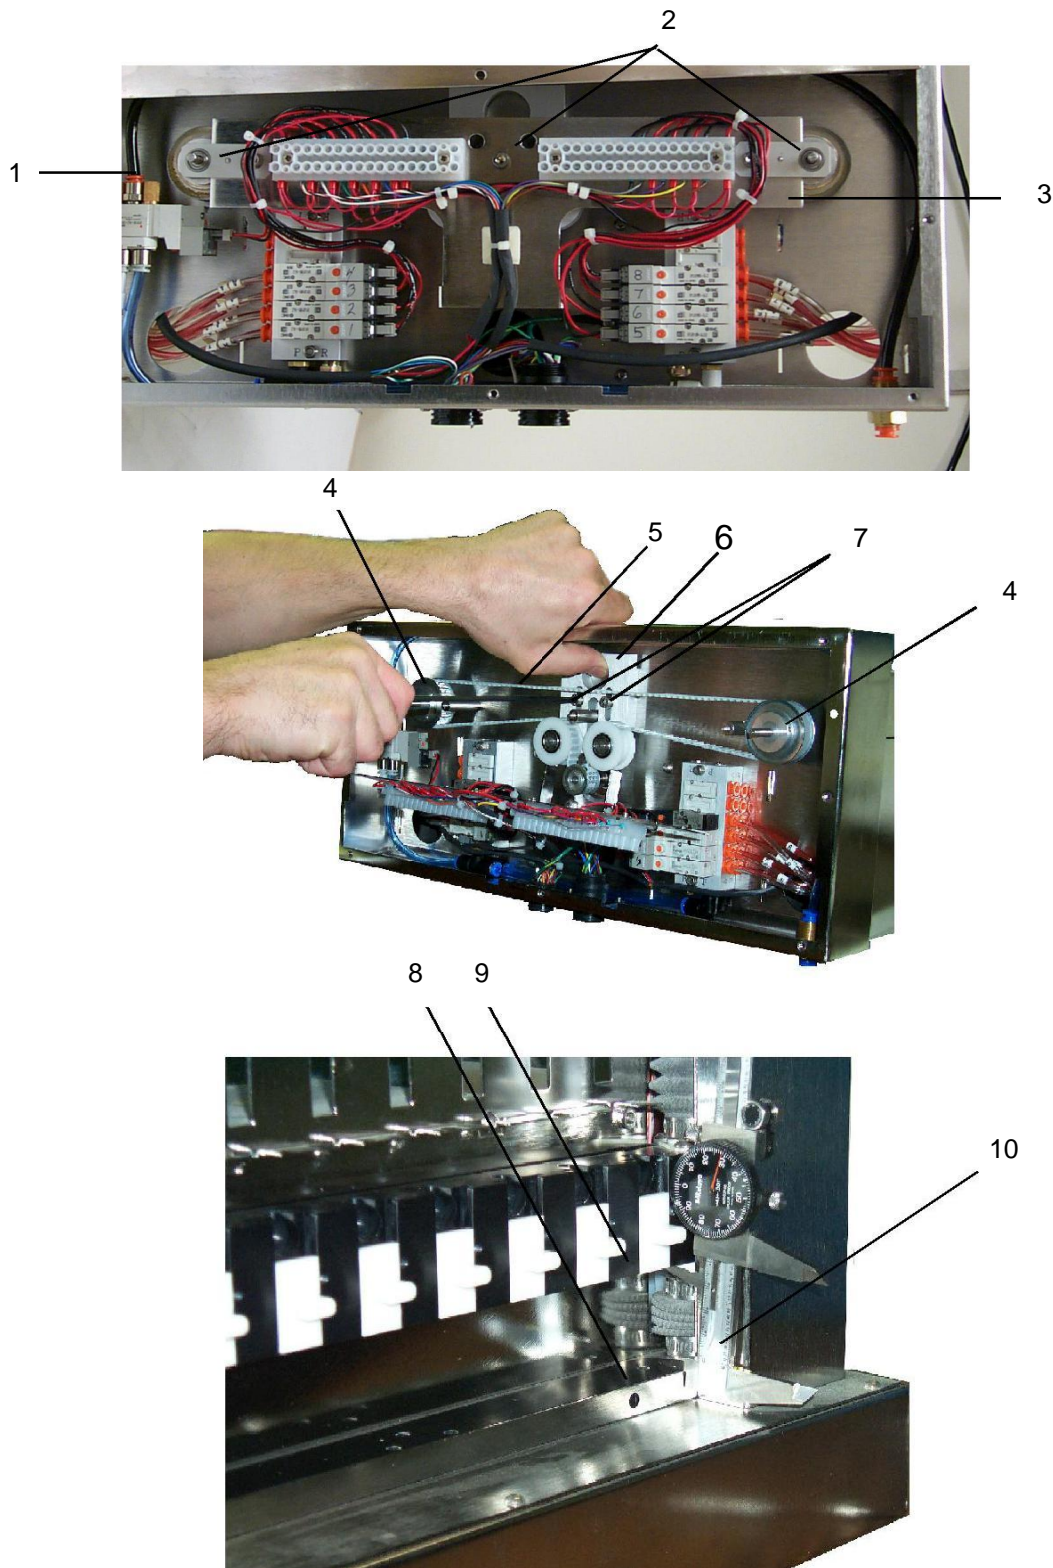

Figure 5.4 Actuator Module Assembly/Disassembly
5.5.3 Assembly/Disassembly Procedures (Figure 5.4)
Disassembly: (Figure 5.4)
Assembly: (Figure 5.4)
1. Using calipers (10), measure the left side of Actuator Module (1) between the bottom of slide assemble (9) and plate (8). Record the measurement.
2. Turn the right side belt pulley (4), while measuring the right side of Actuator Module (1) between the bottom of slide assemble (9) and plate (8), until the measurement is the same as recorded in step 1.
3. Position belt (5) over gears (4) then remaining gears as shown in Figure 5.4 trying not to move gears (4).
4. Place your hand as shown in Figure 5.4 and move belt tensioner (6) upward until you feel tension.
5. Check belt (5) tension by moving the belt up and down in the area between screws (7). The belt should move approximately +/- 1/4" (6.4mm).